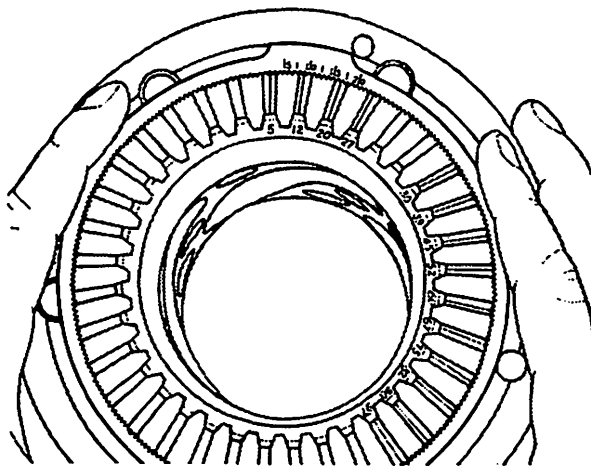
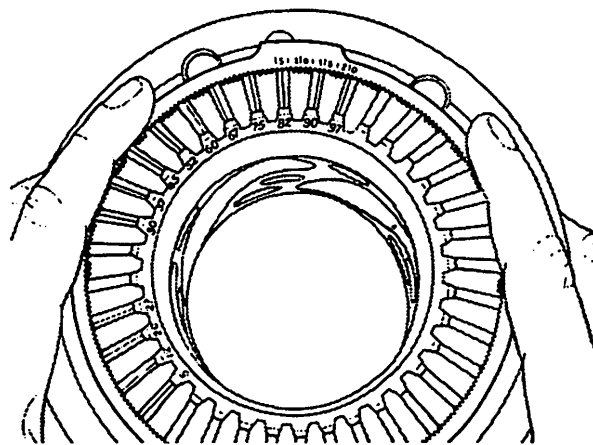

Figure 5-65. Inspecting Setting of Low Pitch Stop Ring
Figure 5-66. Inspecting Setting of High Pitch Stop Ring
4. The following example will serve to illustrate the procedure used in setting the stop rings in the dome assembly to obtain the required blade angles: Assuming (as is required) a basic low blade angle of 13 degrees and a feathering angle of 86 degrees is required. The index angle number on the low pitch stop ring must be equal to or lower than the required low angle. Since the markings on the rotating cam are increments of five degrees, we therefore select number 10 degree marking on the low pitch stop ring and install it on the rotating cam to mesh with its degree marking of 13. See figure 5-65. The high pitch stop ring will also use the number 10 as its indexing angle meshing it with the 86 degree marking of the rotating cam four teeth clockwise of the 82 degree mark on the cam. See figure 5-66. The blade segmental gears will be installed with the serrations at the 10 degree marking on the gear mating with the arrow-indicated serrations on the blade bushings. As the operating range is 83 degrees and the basic range is 73 degrees, ten degrees of cam track will not be in the operating range.